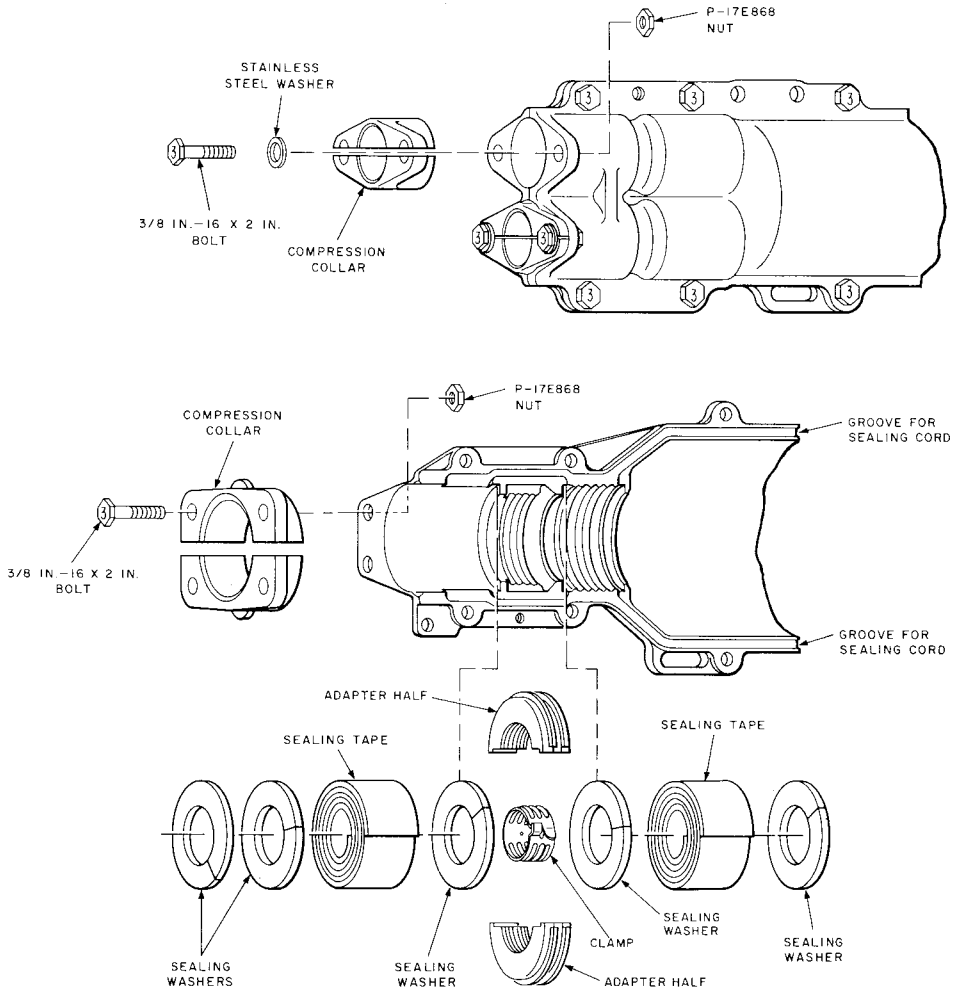

Fig. 23—Expanded Splice Case Ends
- 3.36 Place end collars in position and insert bolts until they completely engage the nuts. Then tighten the bolts on the sides of the case until metal-to-metal contact is obtained. The arrangement of the two types of end collars is shown in Fig. 23. The end collar shown on the straight splice is furnished with 10A, 12A, 40E2, and 41E2 cases. The end collar shown on the Y splice is furnished with 9A and 11A cases.